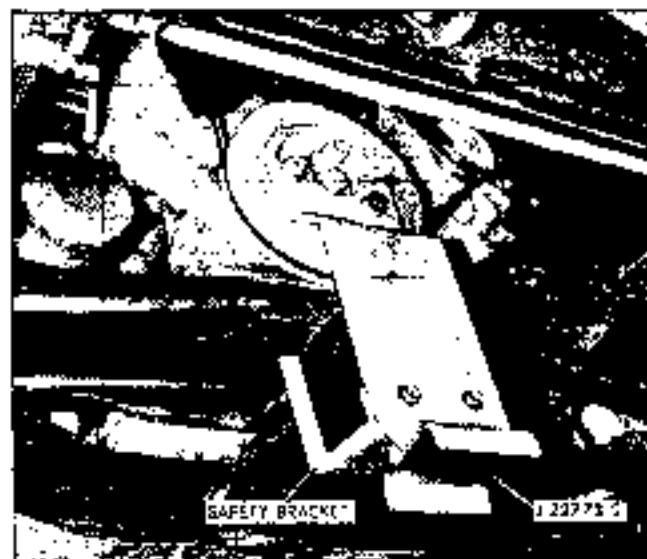

Fig. 6-10 123773 Installed
2. Bolt # 22773 (Firebolt) or # 22345 (Tempest) Engine Support Bracket to front of harmonic balancer (Fig. 6-10).